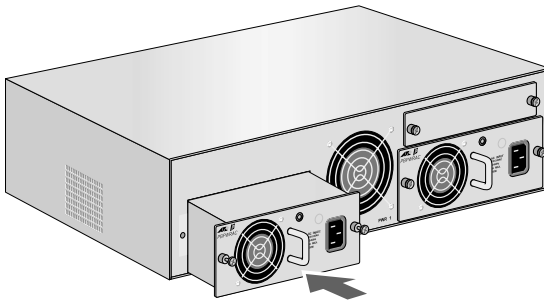

Figure 20 Installing an Optional Power Supply
3. Slide the optional power supply into the slot, gently seating the power supply's connector into the chassis' backplane. See Figure 20.